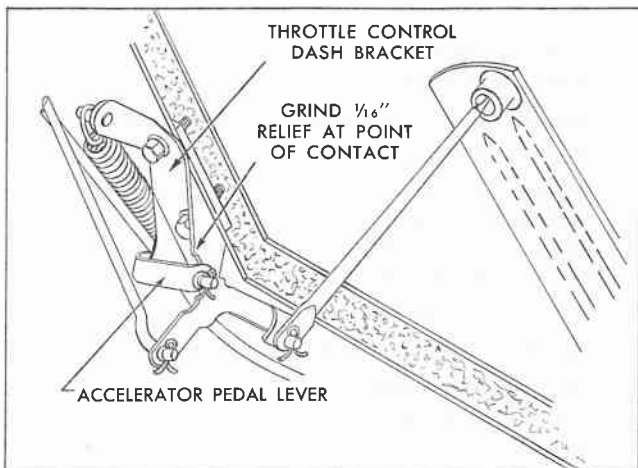

Fig. 15 Point of Interference Between Accelerator Pedal Lever and Throttle Control Dash Bracket
5. Check for any interference between accelerator pedal lever and the throttle control dash bracket at the wide open throttle position. See Fig. 15. If possibility of interference exists, grind a 1/16" relief at the point of contact as shown. This step is especially applicable to early production cars that were originally equipped with a two-barrel carburetor and have had a four-barrel carburetor installed in the field.